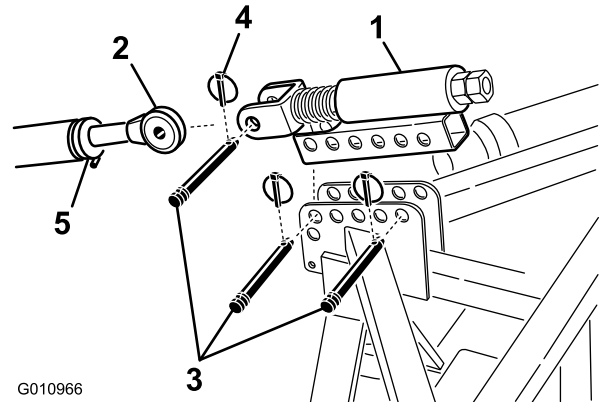

Figure 7
1. Mount the spring loaded top link to the aerator bracket with two link pins and lynch pins (Figure 7)
2. Loosen the lock nut on the tractor upper link. Adjust the upper link until it aligns with the clevis on the spring loaded top link of the aerator (Figure 7).
3. Connect the tractor upper link to the clevis on the spring loaded top link and secure with a link pin and lynch pin (Figure 7).
6. Rotate the upper link until the spring is compressed by about 1/2 inch (Figure 7).